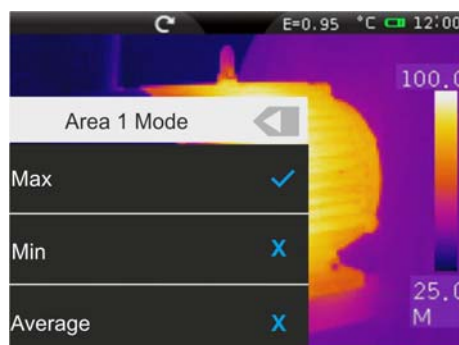

Fig. 32: Setting the parameters associated with the measuring area
2. Touch the icon “” to select the following display options on the Measuring areas (see Fig. 32): **Max** (Maximum value of the internal spots within the area), **Min** (Minimum value of the internal spots within the area), **Average** (Average value of the internal spots within the area). The selection is indicated by the icon “” on the display.